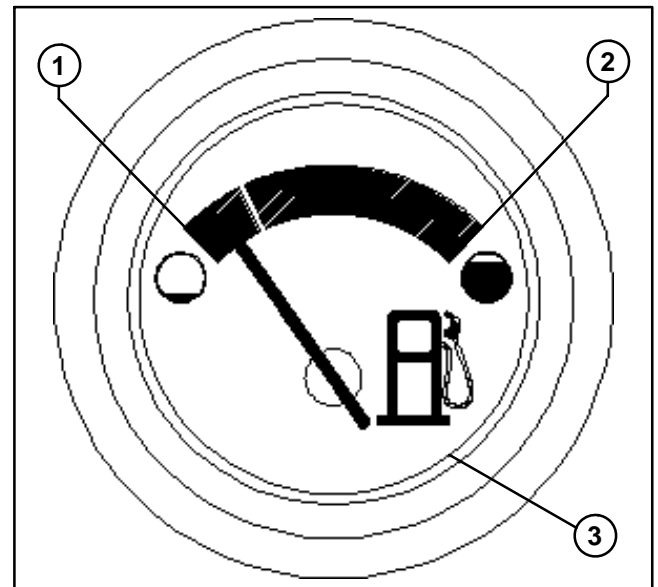

Figure 33
2. Take test point readings (Fig. 33).